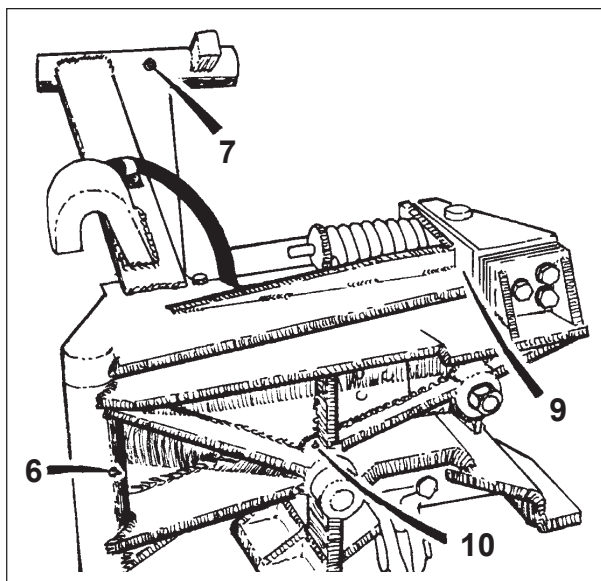

FIGURE 5
6. Knuckle pin (3500 model) Figure 5
7. Carriage pin Figure 5
9. Latch roller (3500 model) Figure 5